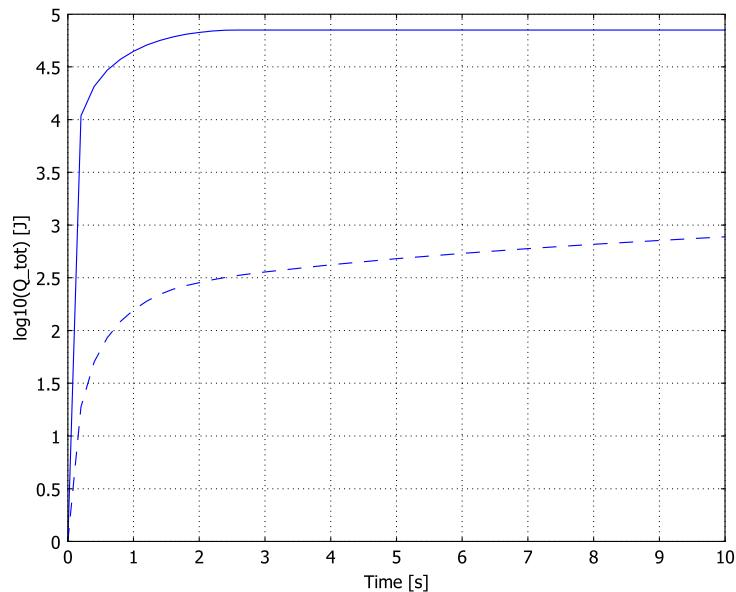

Figure 3-4: Comparison of total heat produced (solid line) and dissipated (dashed).
To investigate how much of the generated heat is dissipated to the air, study the surface integrals of the produced heat and the dissipated heat. These integrals give the total heat flux (J/s) for heat production,  $Q_{\text{prod}}$ , and heat dissipation,  $Q_{\text{diss}}$ , as functions of time for the brake disc. The time integrals of these two quantities give the total heat (J) produced and dissipated, respectively, in the brake disc. Figure 3-4 shows a plot of the total produced heat and dissipated heat versus time. You can see that 8 s after disengagement the brake has dissipated only a fraction of the produced heat. The plot indicates that the resting time must be extended significantly in order to dissipate all the generated heat.